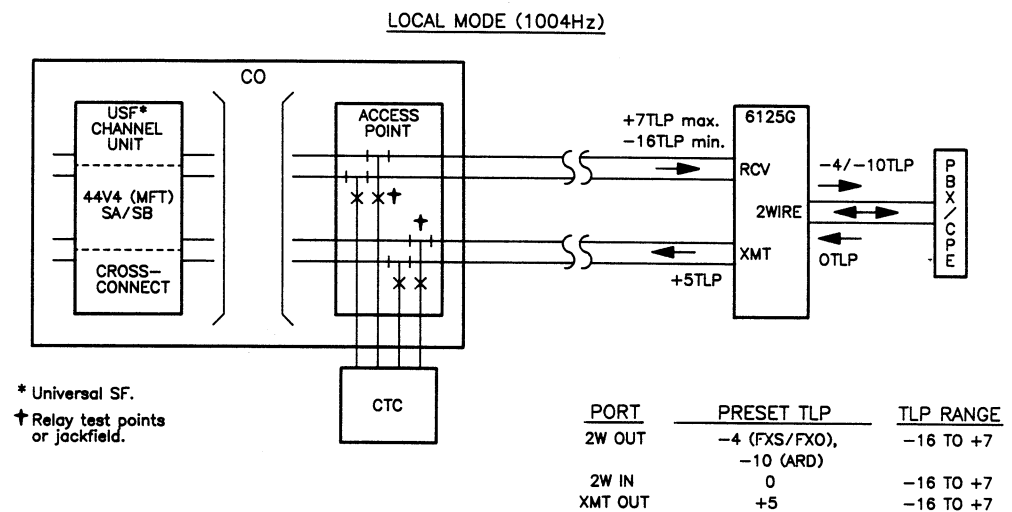

figure 4. LOCAL mode application
- 2.34 The LOCAL alignment mode is activated (when the 6125G is in the PROGRAM mode) by sending 1004Hz tone. In the LOCAL alignment mode (see figure 4), the 6125G adjusts its receive level-control circuit and equalizer and its transmit preset-TLP control circuit in response to tones sent from a CTC. The 6125G, in turn, transmits tones so that the CTC can align its end of the facility. Upon completion of LOCAL alignment, the 6125G calculates the frequency response of the receive channel, sends acknowledgement tone, and then goes into LOOP-BACK. If desired, CTC personnel can calculate the module's actual 2wire output level at each alignment frequency by first recording the levels of the tones generated by the 6125G during alignment, then recording the levels of the tones sent by the CTC and looped back by the 6125G, and finally performing the simple subtractions indicated in the LOCAL alignment mode procedure table in section 3 of this practice.